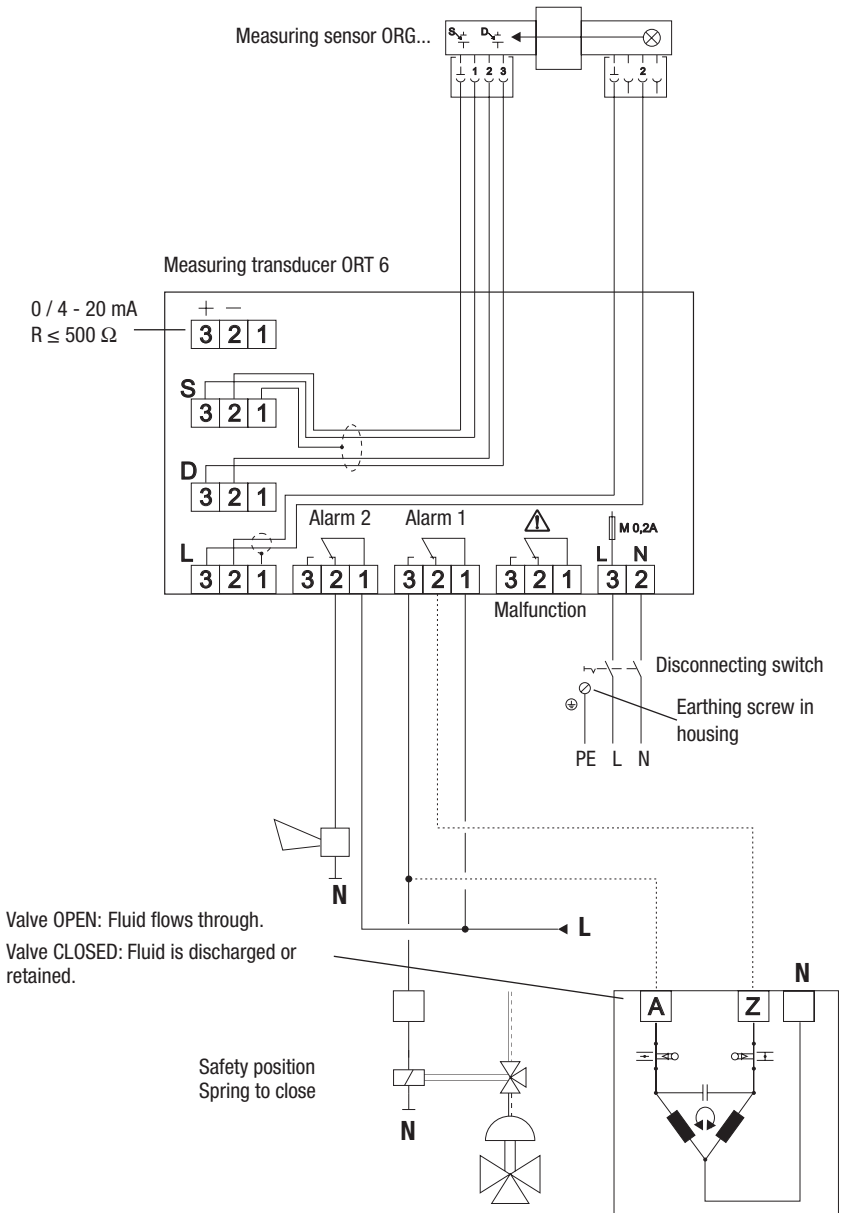
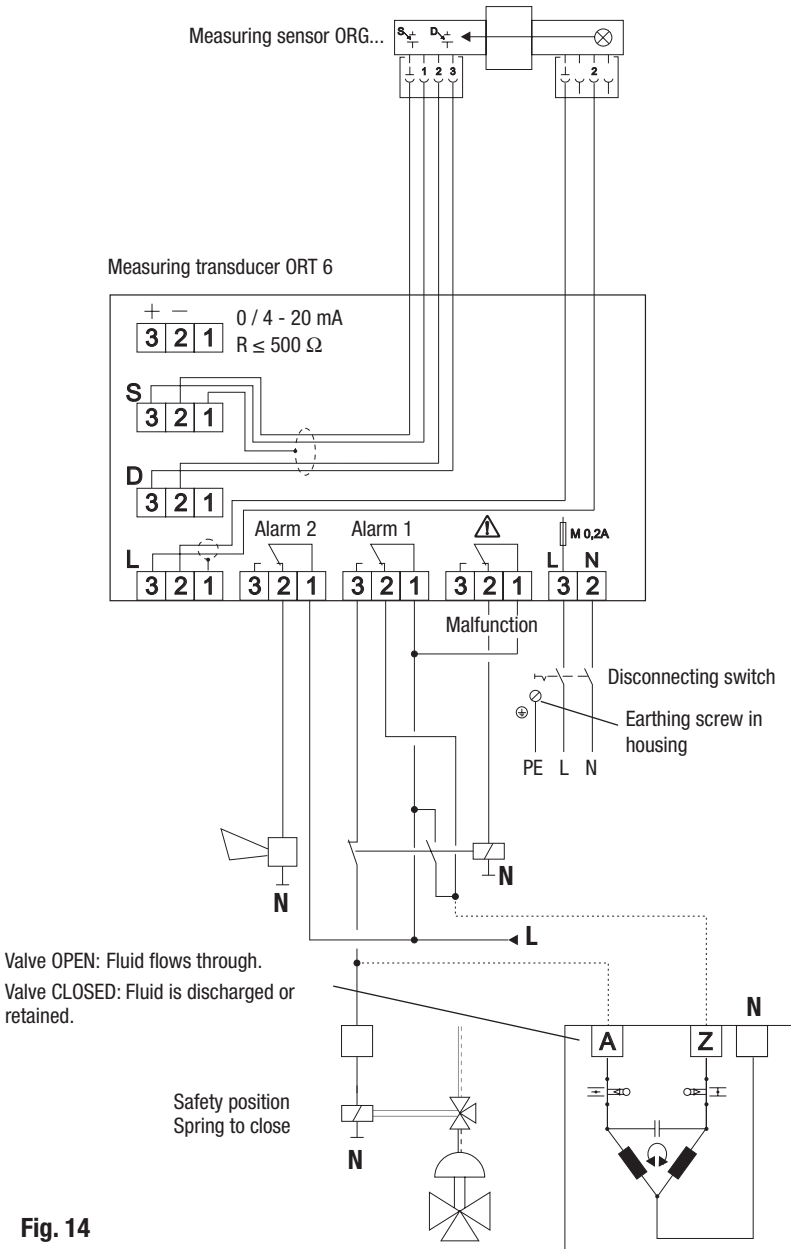

Fig. 13
Fig. 14
6. Pull the cable through the cable gland **34** and connector upper part **29** and connect the terminals of the connection panel **30** as shown in the wiring diagram **Figs. 13 and 14**.
However, the malfunction can be included in the control of the three-way switch-over valve as shown in the wiring diagram **Fig. 13**.
Valves with a single-phase AC motor and max. power rating of 50 VA (see wiring diagram **Fig.13** or **Fig. 14**) can also be connected directly. Install a reversing contact in between in the case of three-phase actuators.
Open the housing cover of the measuring transducer and set code switch 7 on the cover plate to ON. **Fig. 14**